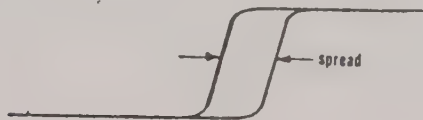

Figure 5-6: Transition Adjustment
- e. Switch the Sweep Magnifier to X10 and adjust the Oscilloscope's position controls to bring a transition into view (See Figure 5-6).